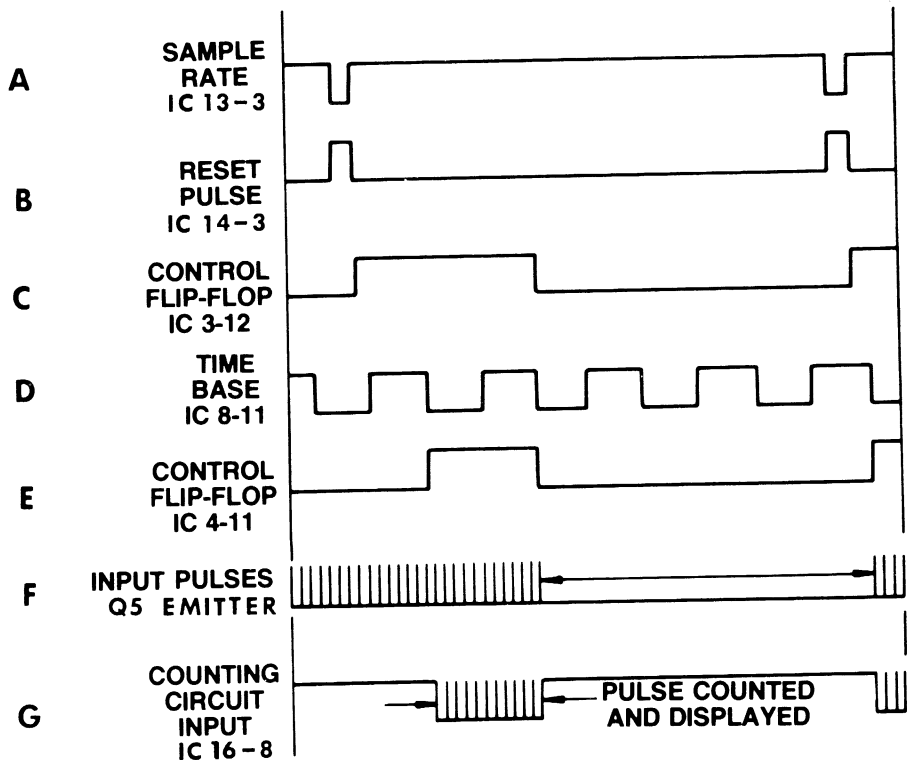
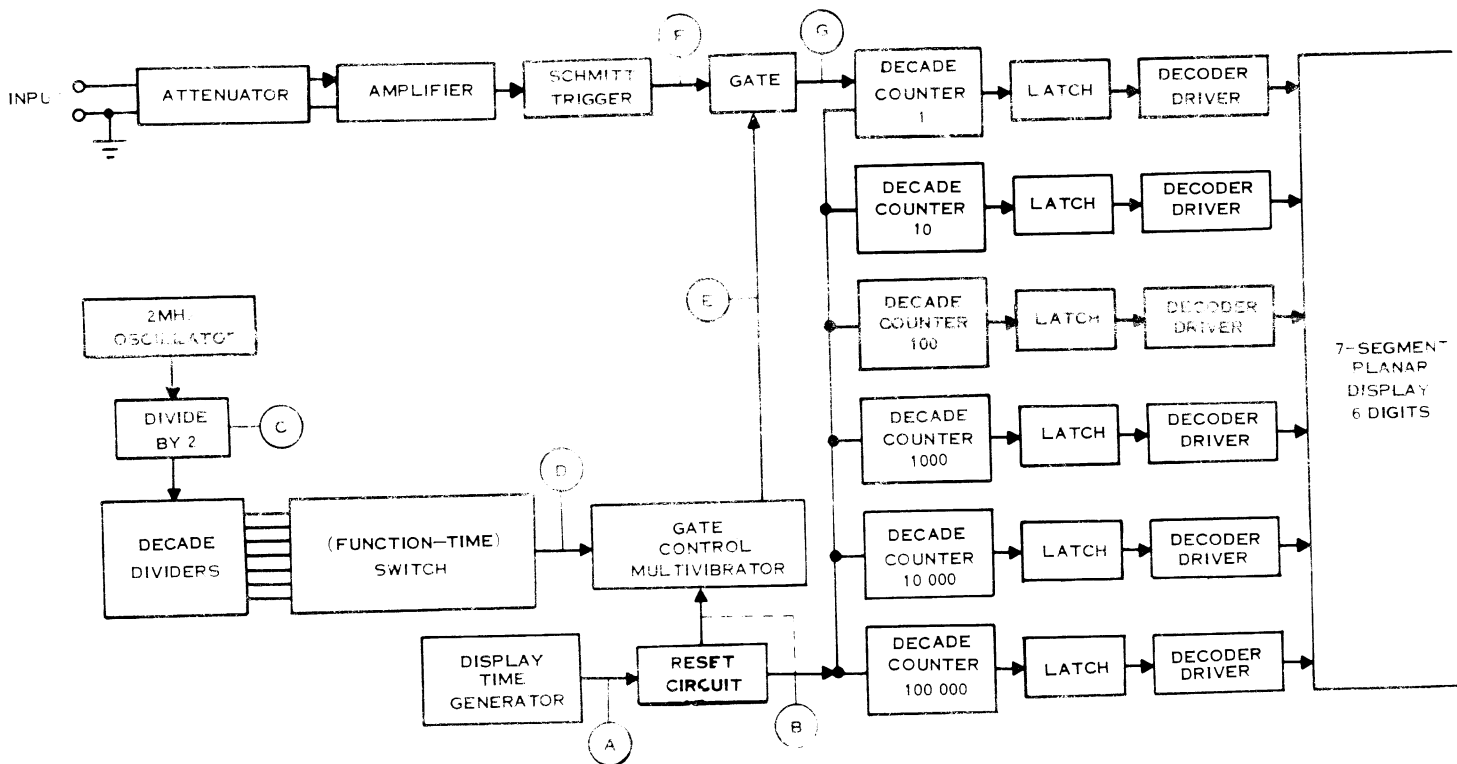

Figure 6-1. Family of Time Related Waveforms as Checked With The Simpson 7016
Figure 6-2. Block Diagram. Frequency Counter-Timer Simpson 7016
6.2.2. Figure 6-1 illustrates the waveform relationships for the Simpson 7016 frequency counter circuit with the block diagram shown in Figure 6-2.
- To view and compare any two waveforms shown in Figure 6-1, press vertical mode switch buttons CH A and CH B in and adjust all other controls as indicated for viewing dual-trace display in Section IV.